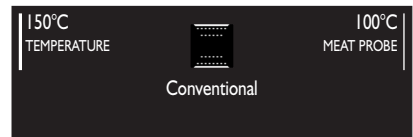

Fig. 3
- at the top right (zone 3) the desired core temperature of the food (meat probe, as indicated in Fig. 3).